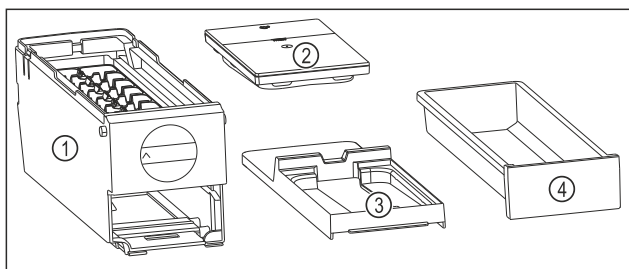

Fig. 174 Components of the EasyTwist-Ice
- ▶ EasyTwist-Ice is dismantled into four parts. (see Fig. 174)
- ▶ Only dismantle the EasyTwist-Ice into the components shown. (see Fig. 174)
- ▶ Clean the EasyTwist-Ice body Fig. 174 (1) as a whole.